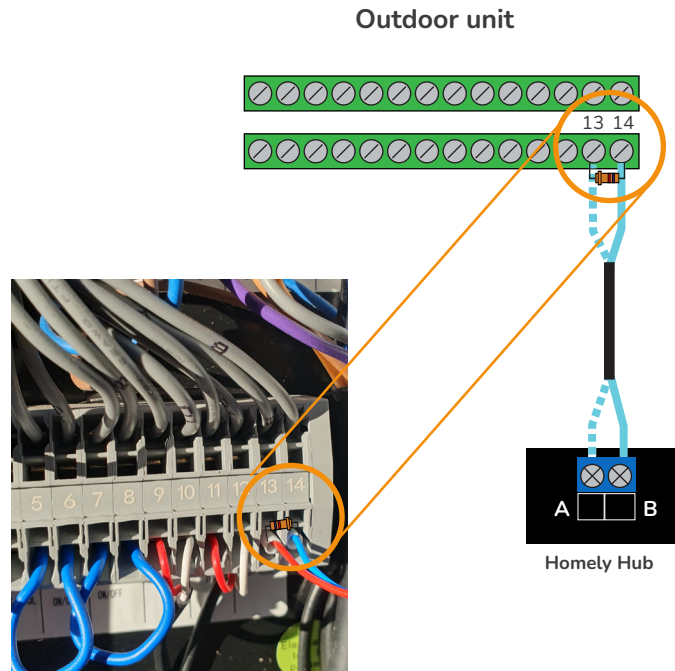

figure 27
3. The supplied 120-ohm resistor must be placed between the outdoor unit's control PCB terminals as shown on the next page (figure 27).